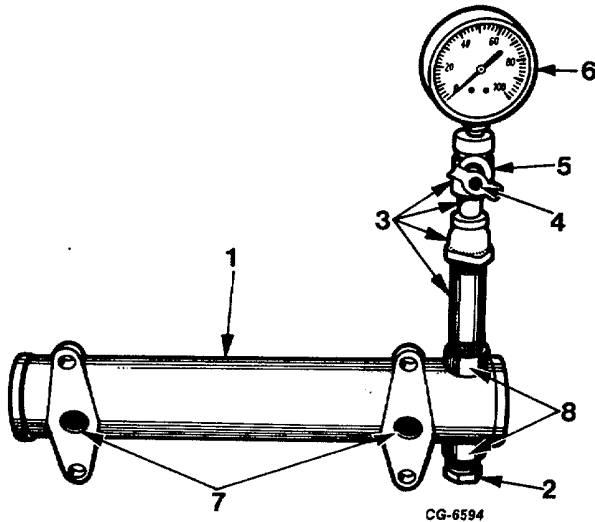

Fig. 132 Oil Cooler Leakage
3. Pressure test cooler for leakage as follows (Figure 132):
- b. Using necessary adapter fittings and air control valve (Radiator drain valve will work) connect an air pressure gauge to the other coolant opening (Figure 132).